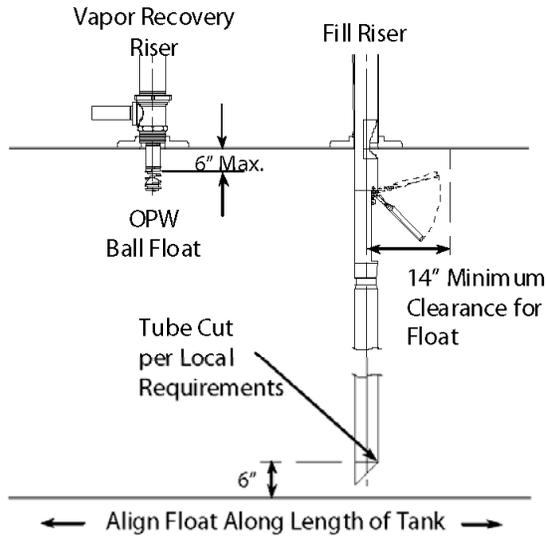

Figure 24
Measuring from the underside of the inlet tube flange, mark the overall length of the drop tube a distance of (B) minus 6". Determine dimension (B) from the measurements taken in Step 1, Figure 1 (Top of the Face Seal Adapter below the drain valve outlet in the spill container to the bottom of the tank). Saw off the excess tube at a 45-degree angle or per local codes or requirements and file off any sharp burrs (Refer to Figure 24). **Optional:** Install the OPW Tank Bottom Protector on the lower tube (Refer to Installation instructions supplied with the Tank Bottom Protector).
CAUTION: No obstruction in the tank can be within 14" from the center of the riser pipe or the valve may not operate properly (See Figure 24).